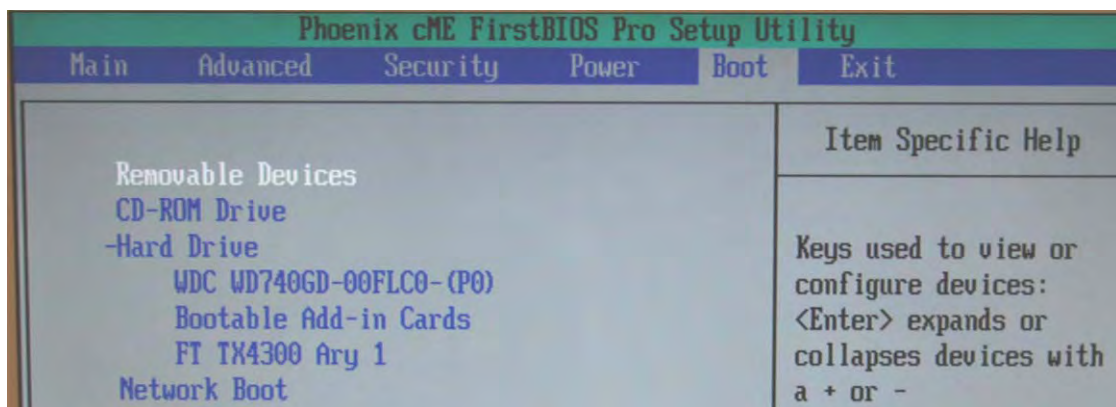

Figure 1-106. Boot Configuration Phase II Hardware
10. Select **Boot** (Figure 1-106).